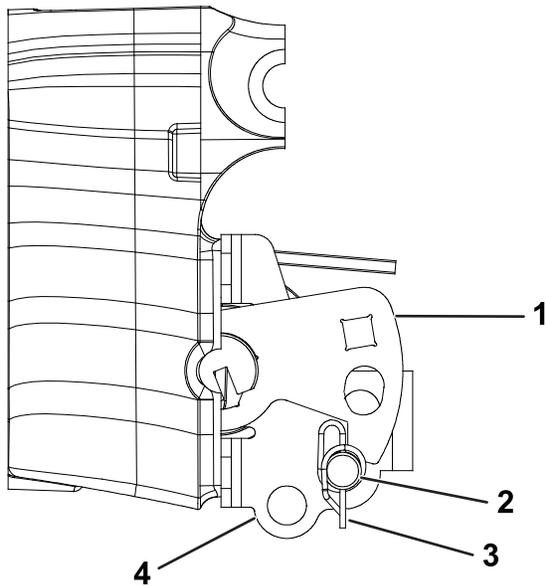

Figure 1
1. Perform the following steps to remove tension from the suspension counterbalance assembly. Refer to Figure 1.
- Use the previously removed cotter pin to secure the clevis pin into the middle holes in the counterbalance mount and below the tensioner arm; refer to Figure 1 for the correct location of the clevis pin.
Note: For hydraulic reel machines, return the counterbalance assembly to the electric reel machine configuration as shown in Figure 1. This position counters the added weight of the TMD.